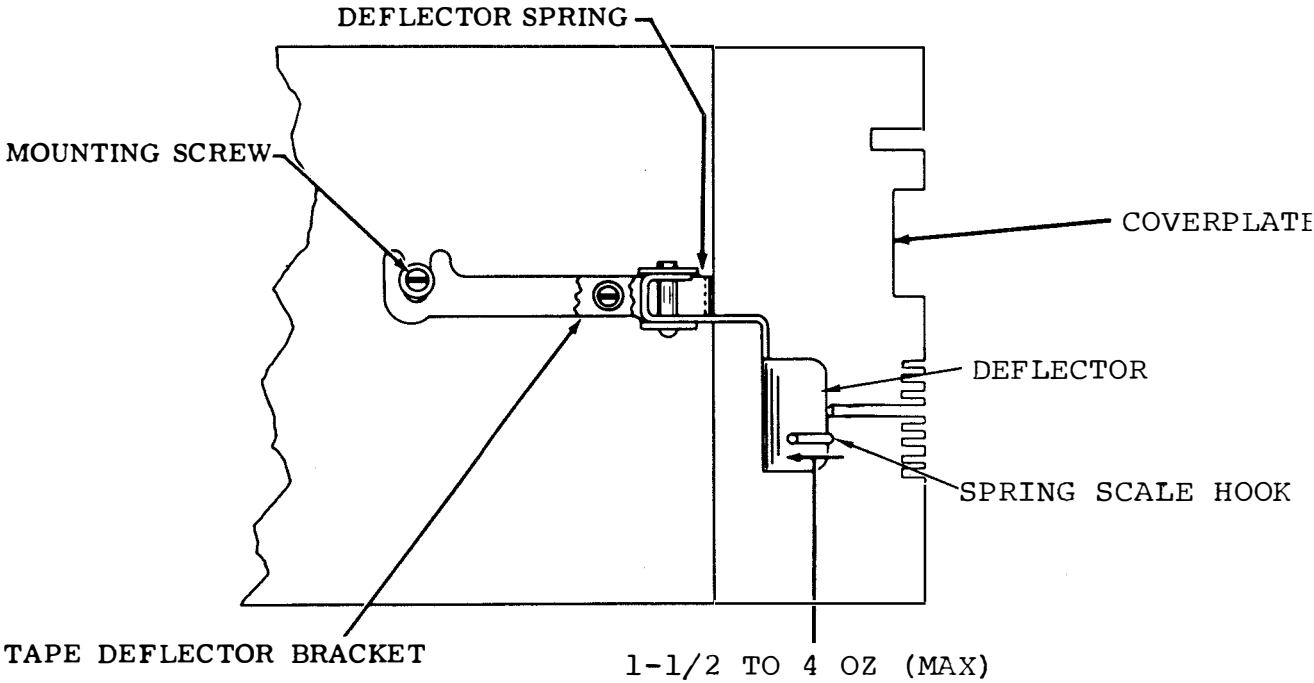

Figure 6-520. Tape Deflector Bracket and Spring, Top View
(1) Tape Deflector Bracket. Adjust as follows:
- (a) Refer to Figure 6-520.
(2) Tape Deflector Spring. Adjust as follows: